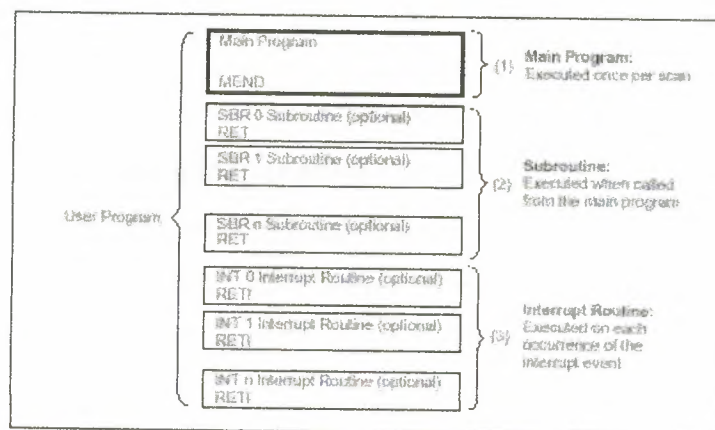

Figure 6.19 Program Structure for an S7-200 CPU
Programs for an S7-200 CPU are constructed from three basic elements: the main program, subroutines (optional), and interrupt routines (optional). As shown in Figure 6.19, an S7-200 program is structured into the following organizational elements:
that control your application. The instructions in the main program are executed sequentially, once per scan of the CPU. To terminate the main program, use an Unconditional End coil in ladder or a Main Program End instruction (MEND) in STL. See in Figure 6.19.
- Subroutines: These optional elements of your program are executed only when called from the main program. Place the subroutines after the end of the main program (following the Unconditional End coil in ladder logic or the MEND instruction in STL). Use a Return (RET) instruction to terminate each subroutine. See in Figure 6.19.
- Interrupt routines: These optional elements of your program are executed on each occurrence of the interrupt event. Place the interrupt routines after the end of the main program (following the Unconditional End coil in ladder logic or the MEND instruction in STL). Use a Return From Interrupt (RETI) instruction to terminate each interrupt routine. See in Figure 6.19.